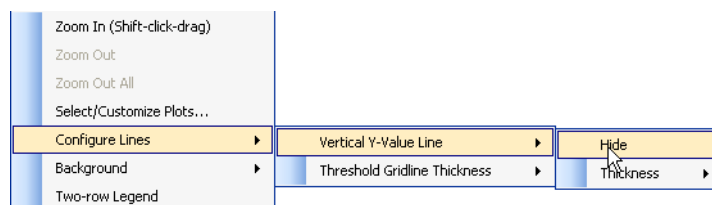

Figure 108 Context Menu Options for the Vertical Y-value Line
- ▶ The vertical Y-value line can be hidden, shown, or customized using the context menu (Figure 108).